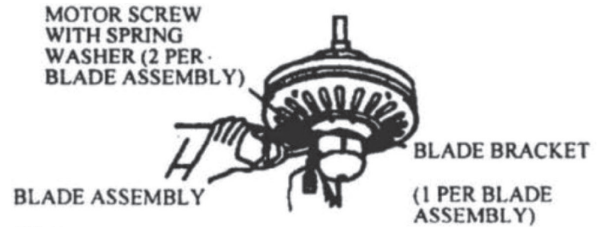

FIG.7
2. Mount the blade assemblies to the motor with motor screw provided. Make sure all screw are tightened securely, see Fig. 7.